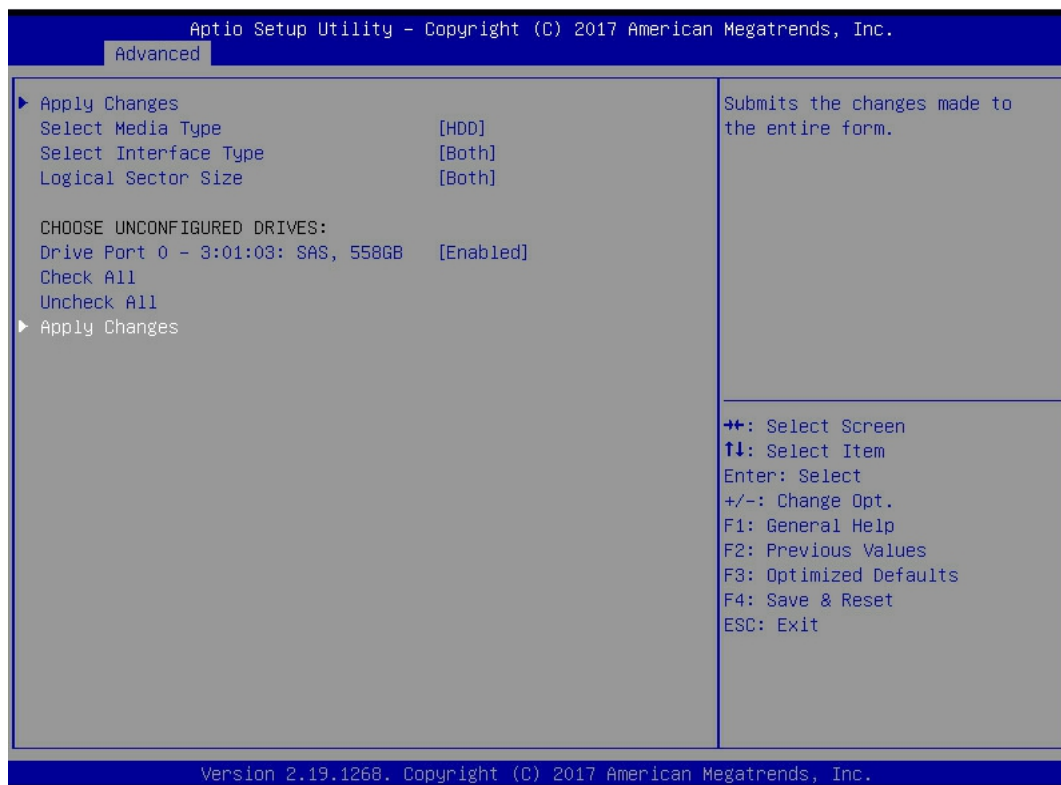

Figure 6-96
f) Enter the interface shown in figure 6-96, select the disk to be added, make it enabled, select apply changes, and press enter.
✧ Figure 6-96 add drives interface